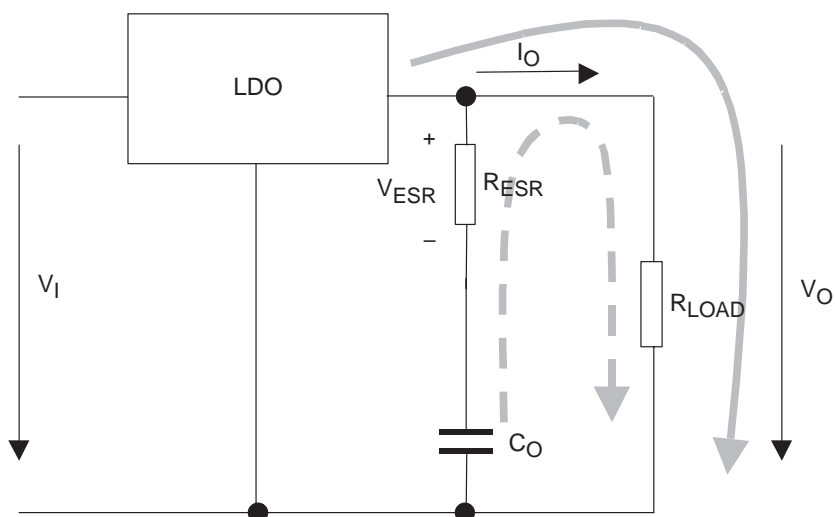
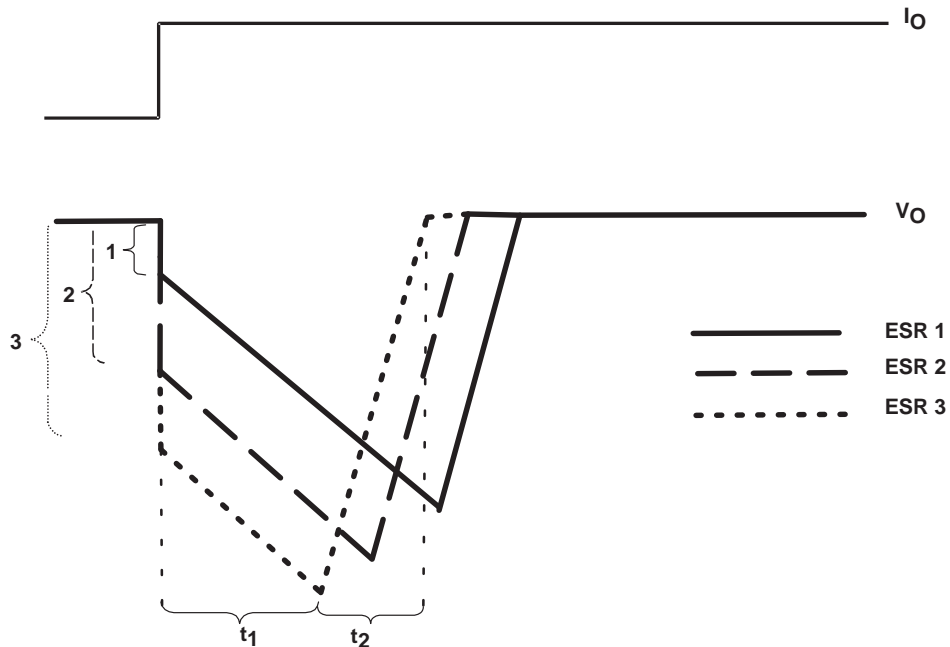

Figure 21. LDO Output Stage With Parasitic Resistances ESR and ESL
Figure 22. Correlation of Different ESRs and Their Influence to the Regulation of V_O at a Load Step From Low-to-High Output Current
Figure 21 shows the output capacitor and its parasitic impedances in a typical LDO output stage.
- The LDO is not able to supply the sudden current need due to its response time (t_1 in Figure 22). Therefore, capacitor C_O provides the current for the new load condition (dashed arrow). C_O now acts like a battery with an internal resistance, ESR. Depending on the current demand at the output, a voltage drop will occur at R_{ESR} . This voltage is shown as V_{ESR} in Figure 21.
- When C_O is conducting current to the load, initial voltage at the load will be $V_O = V(C_O) - V_{ESR}$. Due to the discharge of C_O , the output voltage V_O will drop continuously until the response time t_1 of the LDO is reached and the LDO will resume supplying the load. From this point, the output voltage starts rising again until it reaches the regulated voltage. This period is shown as t_2 in Figure 22.
Figure 22 also shows the impact of different ESRs on the output voltage. The left brackets show different levels of ESRs where number 1 displays the lowest and number 3 displays the highest ESR.